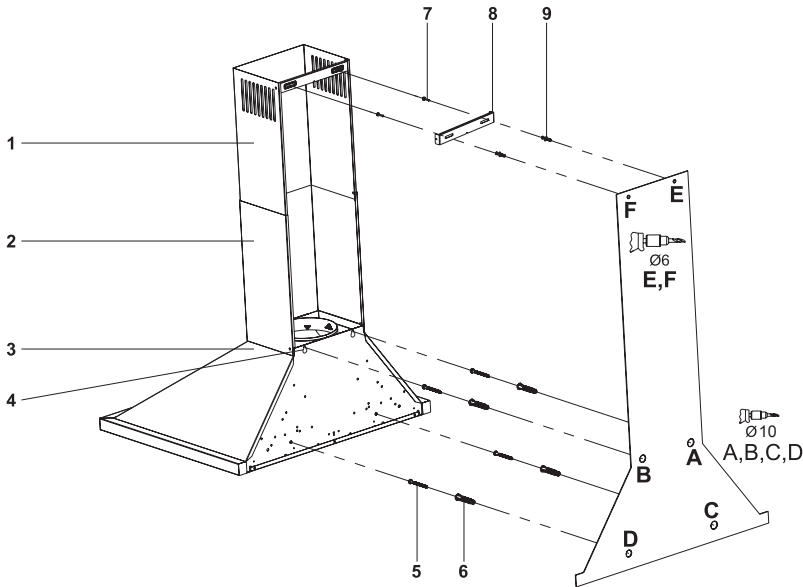

Figure 9: Installation and parts
- Check the minimum and maximum distance according to workbench and drill points A, B. (Figure 9)
- Place Ø10mm pins in drilled A, B points and screw the screws to A+B points leaving 5 mm gap between screw head and the wall. (Figure 9)